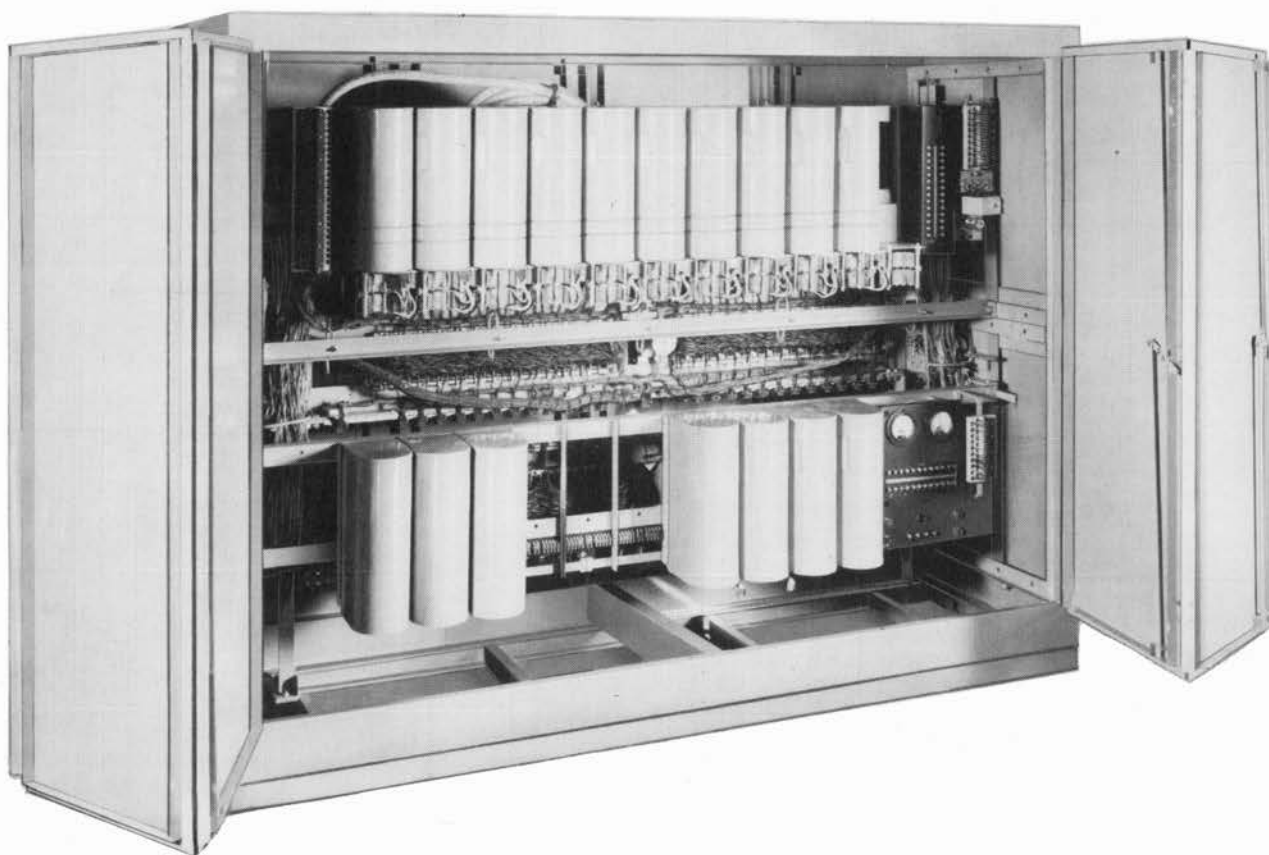

Figure 1. Typical installation of type 50 equipment.
- Cabinets: Standard cabinet dimensions, figure 1, 4' 11" high X 6' 3½" wide X 2' 0" deep, max. capacity 100 lines.
Figure 1 is a general view of a typical installation of Type 50 equipment, illustrating the features of the metal cabinet with swinging collapsible doors (both front and rear), which allows easy access to the equipment and wiring. This illustration is a two section high cabinet which would have an ultimate capacity, of 50 line switches, one power and one connector shelf in the rear. The shelf arrangement and methods of assembly are illustrated on page 15, Figure 14 A to G.